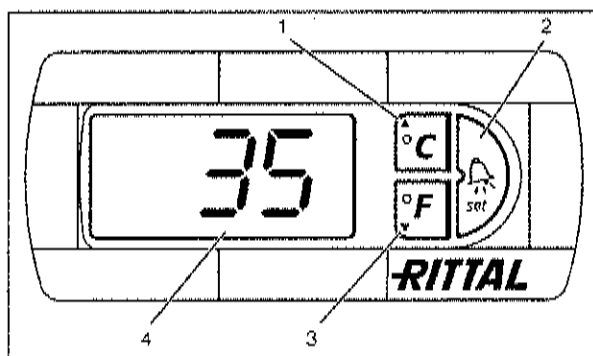

Fig. 17: e-Comfort controller
The e-Comfort controller has a 7-segment display (fig. 17, item 4). After switching on the power supply, the current software version initially appears on this display for approx. 2 seconds together with the symbol to show Eco mode is enabled, followed by a preset option (e.g. t10) or the temperature.
The unit is programmed using buttons 1 – 3 (fig. 17). The relevant parameters also appear in the display.
- Simultaneously press buttons 1 and 2 (fig. 17) for at least five seconds.
Using buttons 1, 2 and 3 (fig. 17) you can change 24 parameters within the preset ranges (min. value – max. value).